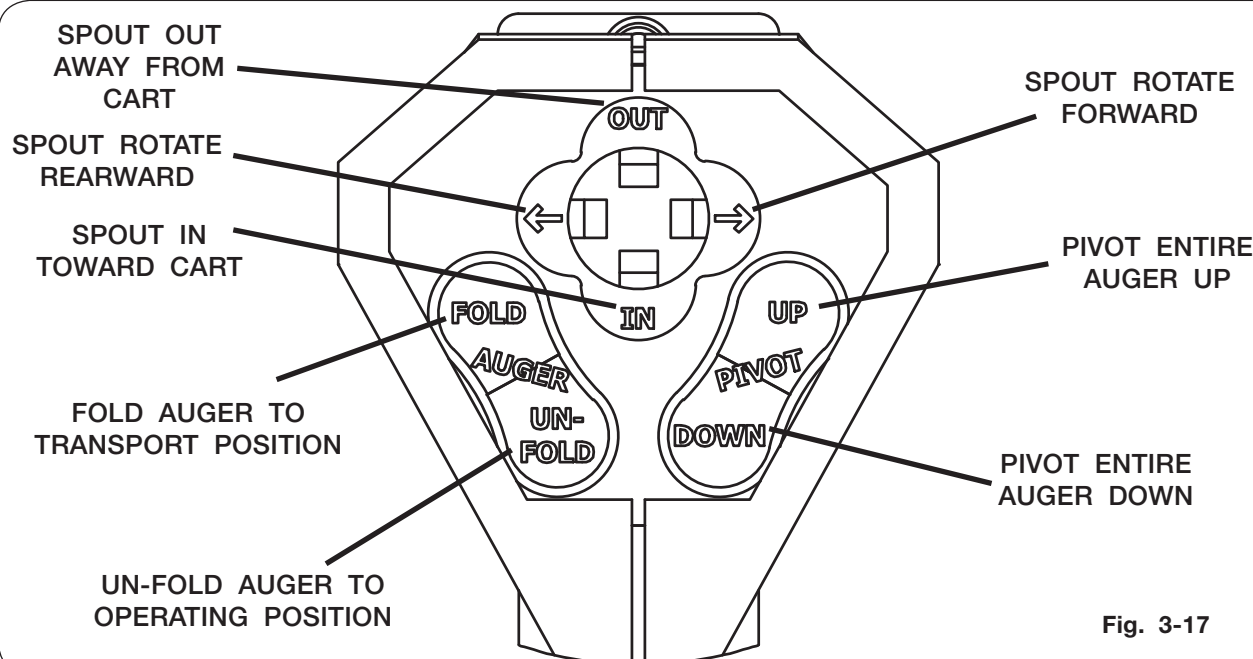

Fig. 3-17
1. Connect the red wire from power harness (9008251) to a key-switched +12VDC power supply. (FIG. 3-17)
4. To pivot spout OUT away from cart, push hat switch toward OUT. Hold the switch until desired position is achieved. See Fig. 3-17.
5. To pivot spout IN toward cart, push hat switch toward IN. Hold the switch until desired position is achieved. See Fig. 3-17.
6. To pivot the entire auger UP, press and hold the auger pivot UP button until the desired height is achieved. See Fig. 3-17.
7. To pivot the entire auger DOWN, press and hold the auger pivot DOWN button until the desired height is achieved. See Fig. 3-17.
8. To pivot the spout FORWARD, push hat switch RIGHT. Hold the switch until desired position is achieved. See Fig. 3-17.
9. To pivot the spout REARWARD, push hat switch LEFT. Hold the switch until desired position is achieved. See Fig. 3-17.